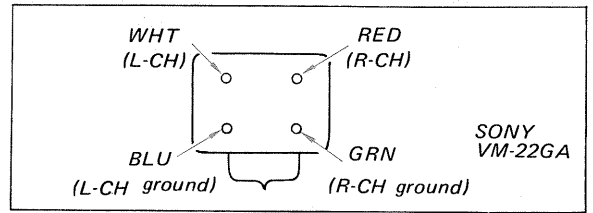

Fig. 2-6. Wiring diagram
3. Remove the dust cap and cartridge, and then install the replacement cartridge. Refer to the wiring diagram in Fig. 2-6, when reinstalling the cartridge.